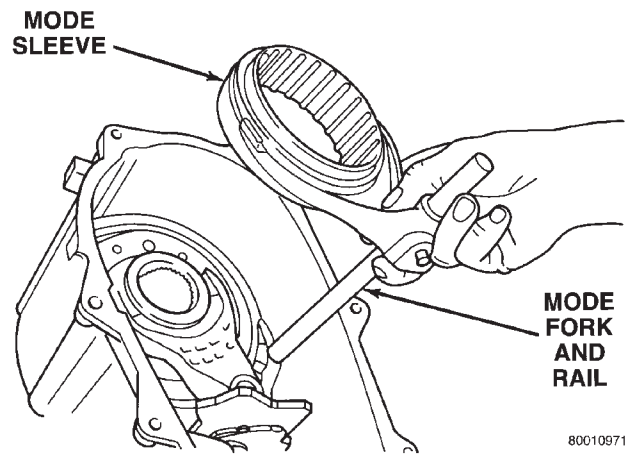

Fig. 65 Assembling Mode Fork And Sleeve
(7) Install new pads on mode fork if necessary.
(8) Insert mode sleeve in mode fork mode fork. Be sure long side of sleeve is toward long end of shift rail (Fig. 65).